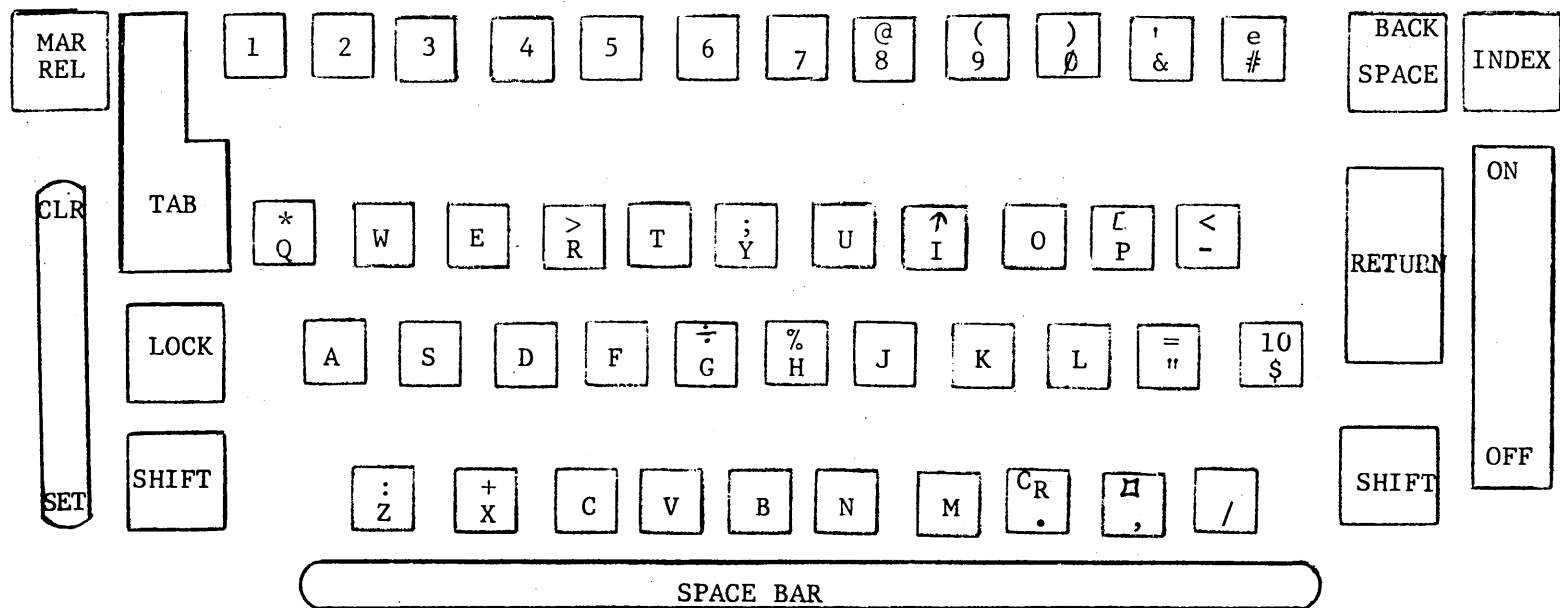

FIGURE I-1
- Shift - The shift key causes the special characters shown in the upper portion of the double character keys (Figure I-1) to be sent to the processor when the respective key is depressed.